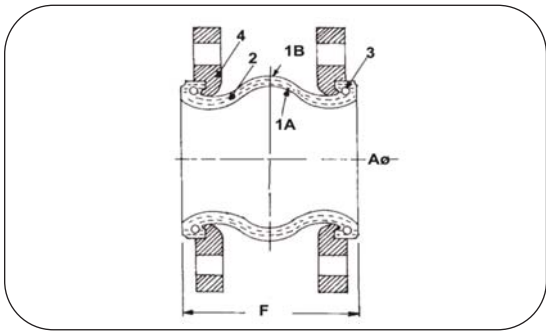

Fig 1 - Maximum Temperature For Pressures Shown
- Pressure rating is based on operating temperature shown in Fig 1 above. At higher temperatures the pressure rating is reduced. Contact Thorburn for details.